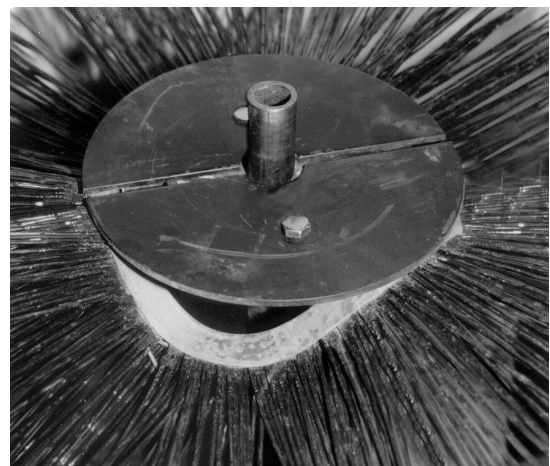

figure 3
6. Loosen screws on the retainer plate and take off the retainer halves (figure 3).